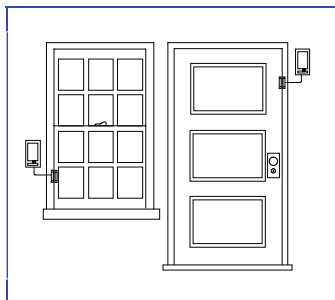

Figure 7.
STEP 4: Slide the transmitter onto the back cover until locked into place to complete installation (see Figure 7).